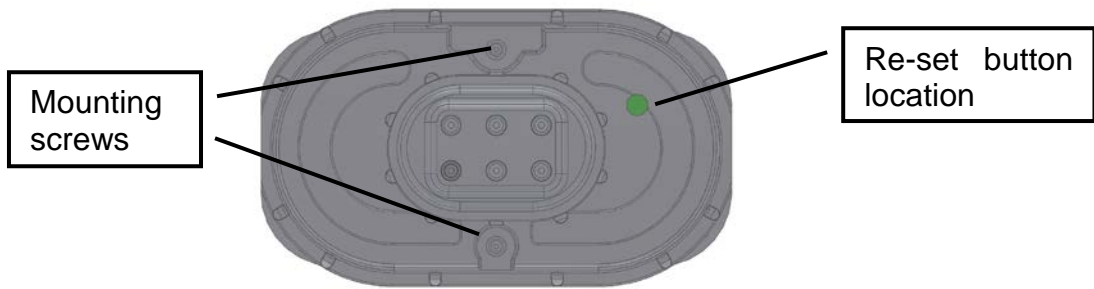

Figure 5-2: Battery pack bottom view
- Loosen the two battery pack mounting screws (Torx T10), see Figure 5-2. Note that the spring force is high, have therefore a firm grip around the pack while unscrewing.
- Press the button on the pack, see Figure 5-2 (the button is located behind a hole in the pack and accessible with the tip of a pen). This will indicate to the gas detector that fresh batteries are in place and re-set the charge counter. Note that only gas detectors with firmware 3.0 or later will recognize this button operation. Please contact GasSecure should the detector in question contain an older firmware version or should you be uncertain about the firmware of this detector.